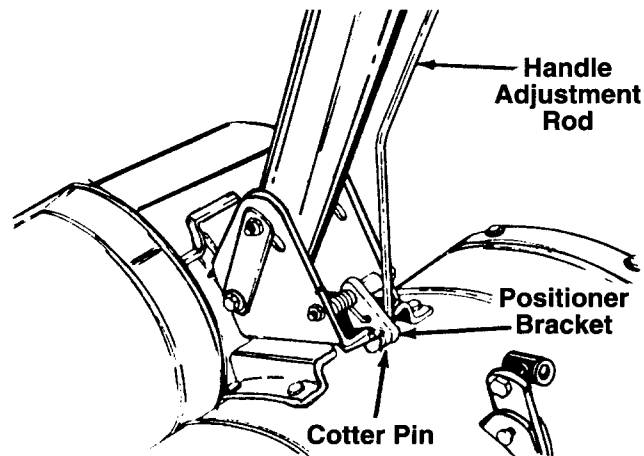

FIGURE 10.
4. With the handle adjustment rod beneath the handle assembly, insert the hooked end of handle adjustment rod into the positioner bracket as shown in figure 10. Secure with cotter pin, bending ends of pin in opposite directions.